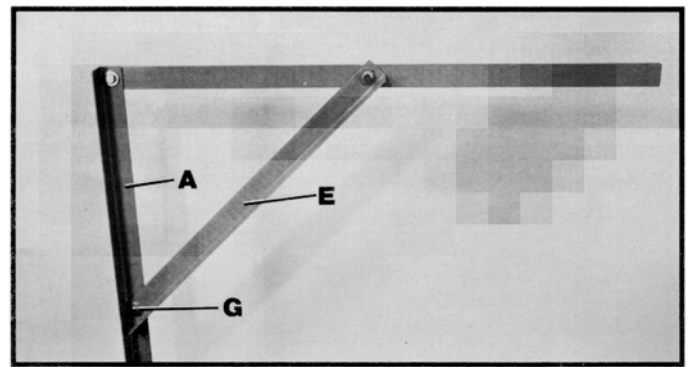
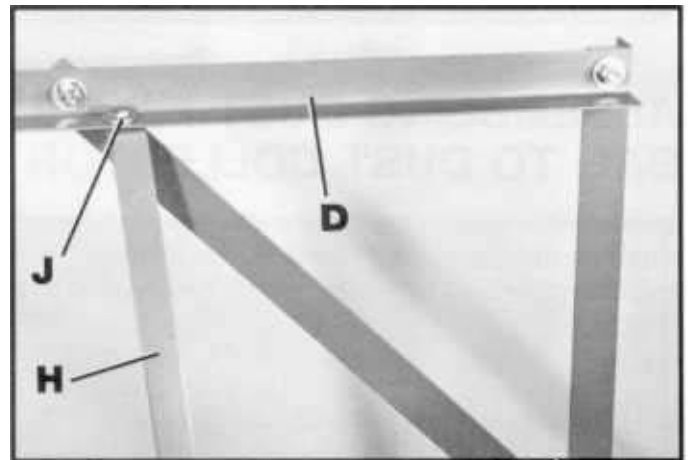

Fig. 21
Fig. 22
4. Assemble the remaining 45 degree end of support bar (E) Fig. 21, to vertical support bar (A) with 1-1/4 inch-long screw (G), two flat washers, lockwasher and hex nut. Position horizontal angle support (D) Fig. 22, parallel to the floor and securely tighten all hardware mentioned in this section.
5. Assemble one end of remaining support brace (H) Fig. 22, to underside of horizontal angle support (D), as shown and fasten with 1-1/4 inch-long screw (J), two flat washers, lockwasher and hex nut. **NOTE:** Do not completely tighten hardware at this time.